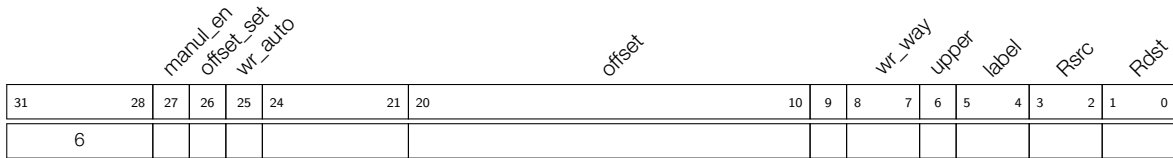

Figure 1-10. Instruction Type - ST
- Operand Description** - see Figure 1-10